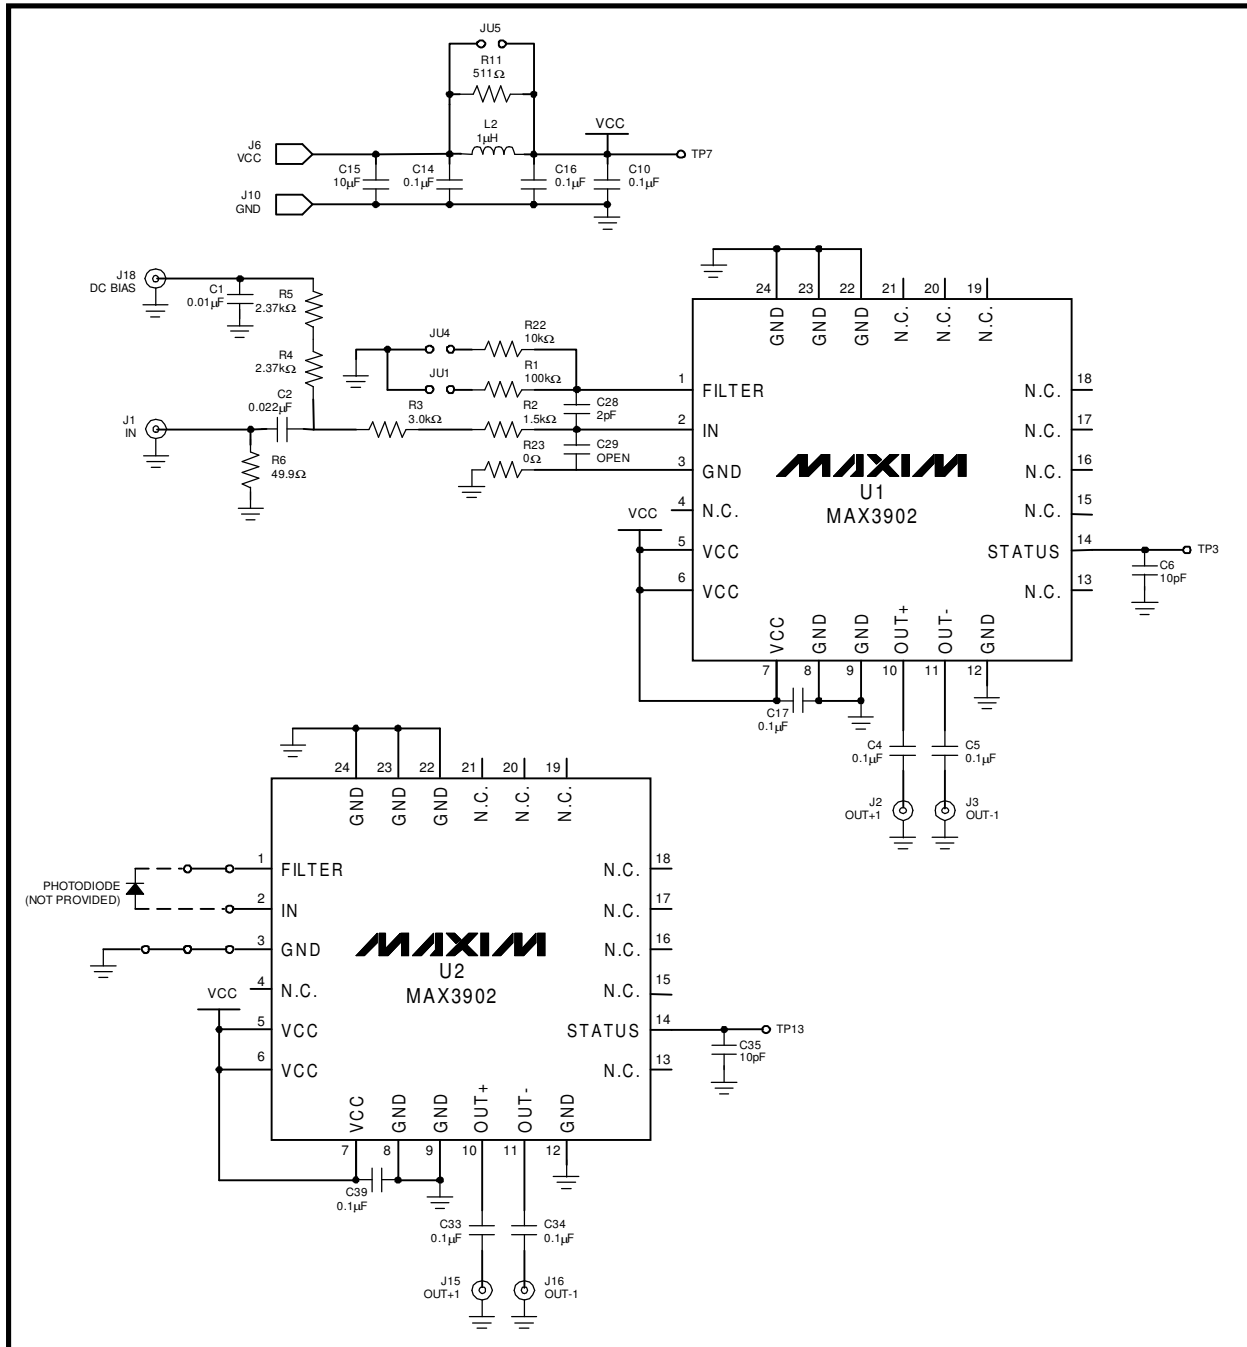

Figure 1. MAX3902 EV Kit Schematic Diagram
- 8) Install a photodiode with optical source. For layout configuration refer to Figure 1.